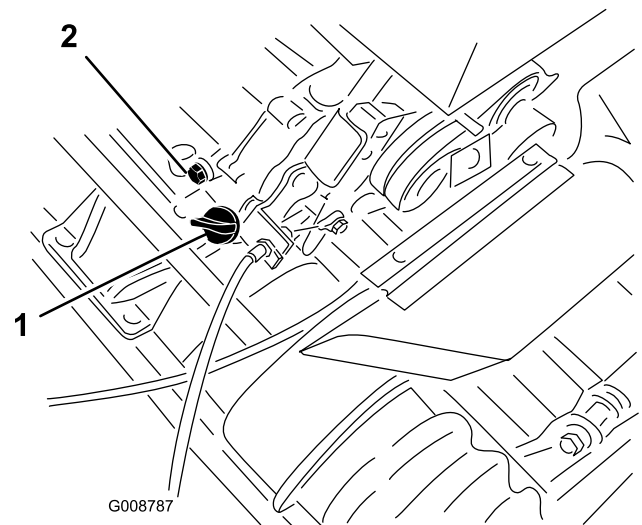

Figure 19
1. Position mower so the engine is level and clean around oil level gauge (Figure 19).
2. Place a drain pan at the rear of machine, under the drain plug (Figure 19).